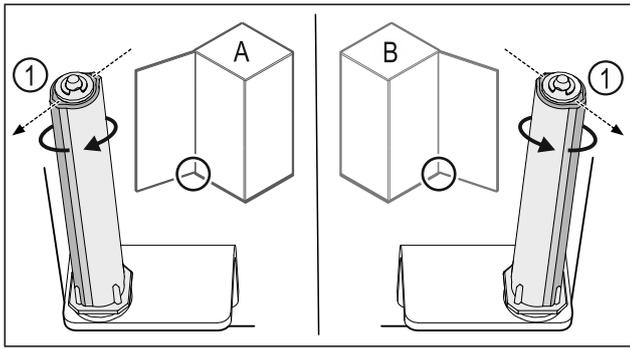

Fig. 33 Left-hinged (A) / Right-hinged (B)
- ▶ Turn the closing system against the resistance until the bar of the closing system Fig. 33 (1) points outwards.